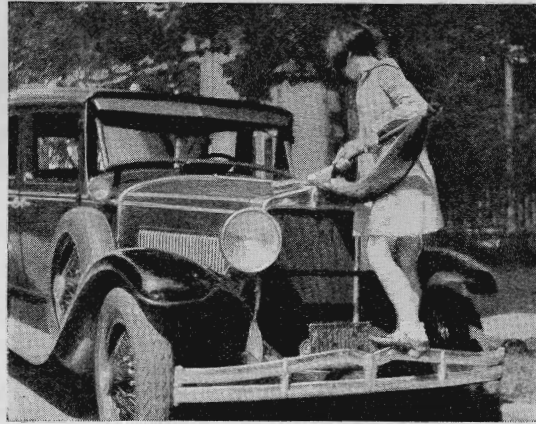

Fig. 1. A discarded inner tube fastened to a broomstick serves as an emergency bucket for filling the auto radiator.
**C**ARRYING water in a hat, shoe, or even in the bowl of a headlight are possible methods whereby water can be put into the radiator in an emergency. But it is much more satisfactory to do the job by the ingenious method shown in Figure 1. The device consists of a three-foot piece of discarded inner tube. One end is folded back on itself and bound tightly by a rubber band cut from the remaining part of the tube to one end of a thirty-inch piece of broomstick. The other end of the tube is rolled back on itself, like a cup, and the turned end stretched over the free end of the stick.